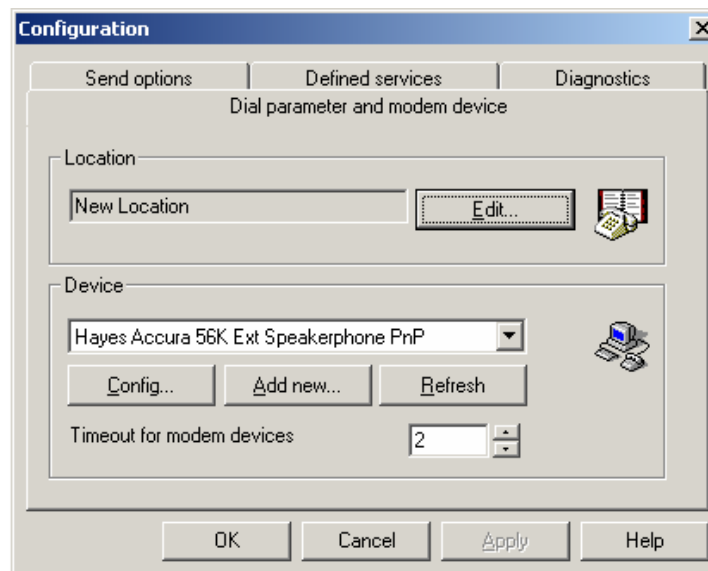

Figure A.5. TAP Configuration: Dial Parameter and Modem Device Tab
This section covers the details of creating and modifying a TAP pager service. For details on SMS paging, see **Section A.4**. To configure TAP services, select the **Message Master Modem/ISDN** option (see Figure A.4), and then click the **Config...** button. The **TAP Configuration** dialog box will appear, as shown in **Figure A.5**.
1. On the **Dial Parameter and Modem Device** tab, shown in Figure A.5, configure the following parameters.
Note: While it is a good idea to configure this dialog, modem configuration is actually done by using the **Configure** button on the **Device** tab (see Figure A.5).